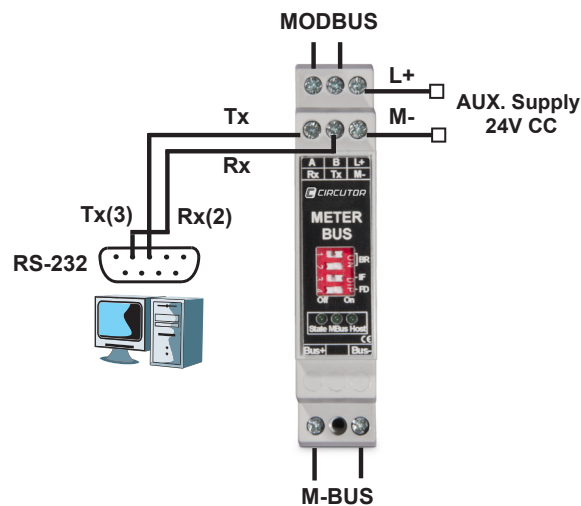

Figure 7: CMBUS connection to the RS-232 port
- 4.- Connect the **CMBUS** to the computer's RS-232 port, as shown in **Figure 7**.